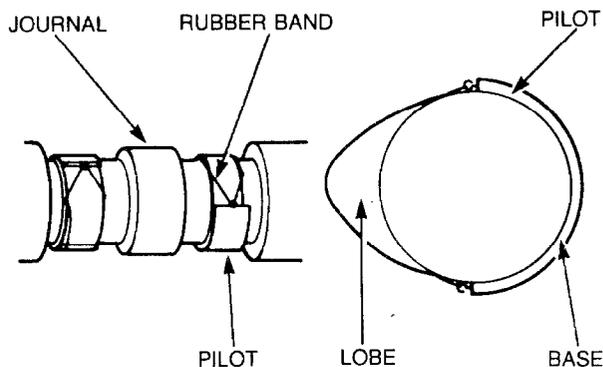

Figure 51 — Camshaft Pilot — Installation
- at. Install the camshaft thrust washer onto the camshaft, then install the camshaft pilots Part Number 3375268 over the base of the camshaft between the journals (see Fig. 51), secure the pilots in place using a suitable rubber band straddling the camshaft lobe.